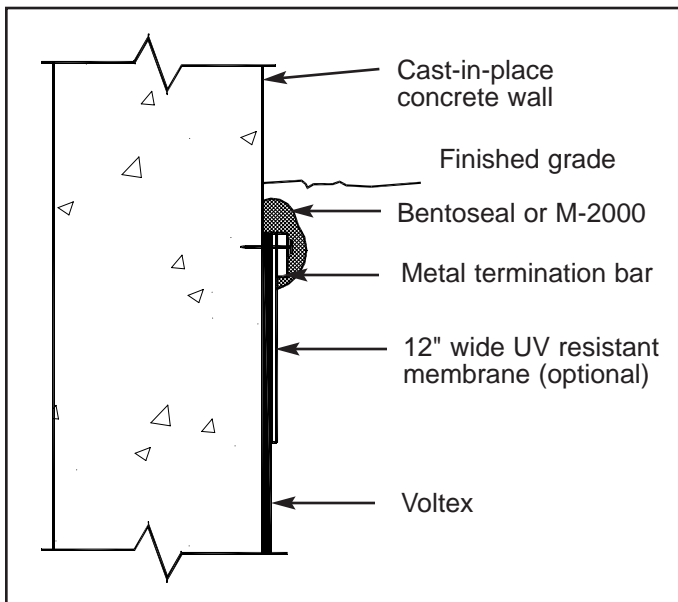

Figure 3.11 - Termination at finished grade.
**Grade Termination:** Terminate Voltex at grade with a rigid termination bar fastened 12" (300 mm) on center. A 12" (300 mm) wide strip of UV resistant flashing is recommended to be installed with the termination bar. Embed the top edge of Voltex and termination bar in a 2" (50 mm) wide by 1/2" (12 mm) thick bead of Bentoseal. Note that it may be necessary to dig and remove several pieces of lagging to facilitate the termination. See termination details, Figure 3.11 and 3.12, Page 23.
Voltex should be brought up to the grade line on back-filled wall installations. Terminate Voltex at grade with a rigid metal termination bar fastened 12" (300 mm) on center. A 12" (300 mm) wide strip of UV resistant flashing is recommended to be installed with the termination bar at grade level (Figure 3.11). Embed the top edge of the Voltex and termination bar in 2" (50 mm) wide, 1/2" (12 mm) thick bead of Bentoseal. Grade terminations are illustrated in Figures 3.11 and 3.12.